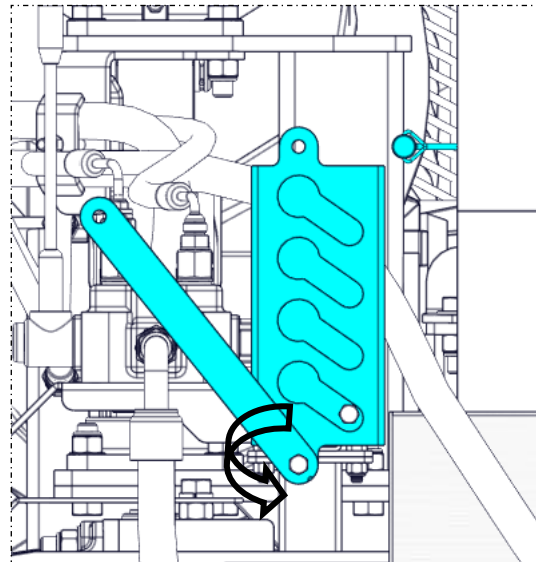

Figure 4.26
B) Rotate the lock plate counter clockwise (Figure 4.26). If the lock plate is too tight, loosen the bolt at the bottom of the lock plate.